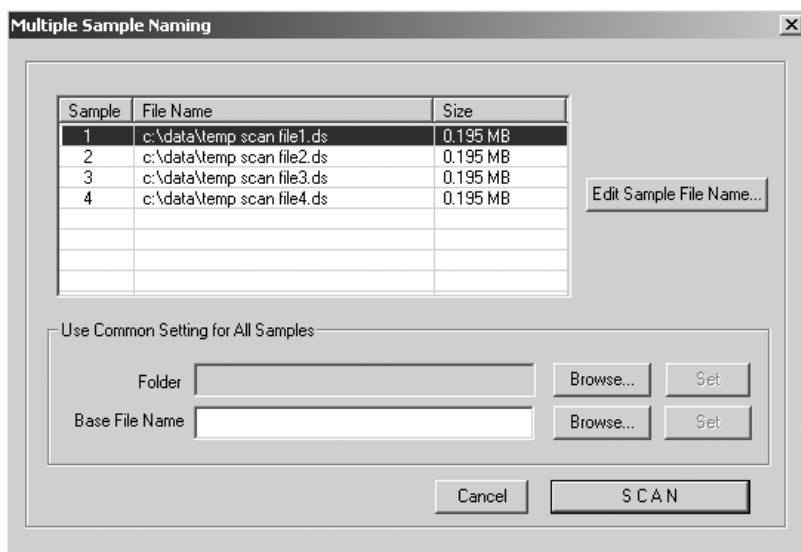

Fig 9-7. The Multiple Sample Naming window.
- 2 In the Scanner Control window, click the **Scan** button. The Multiple Sample Naming window appears (fig 9-7).
- 3 In the Scanner Control window, click the **Scan** button. The Multiple Sample Naming window appears (fig 9-7). Default file names appear for each sample.